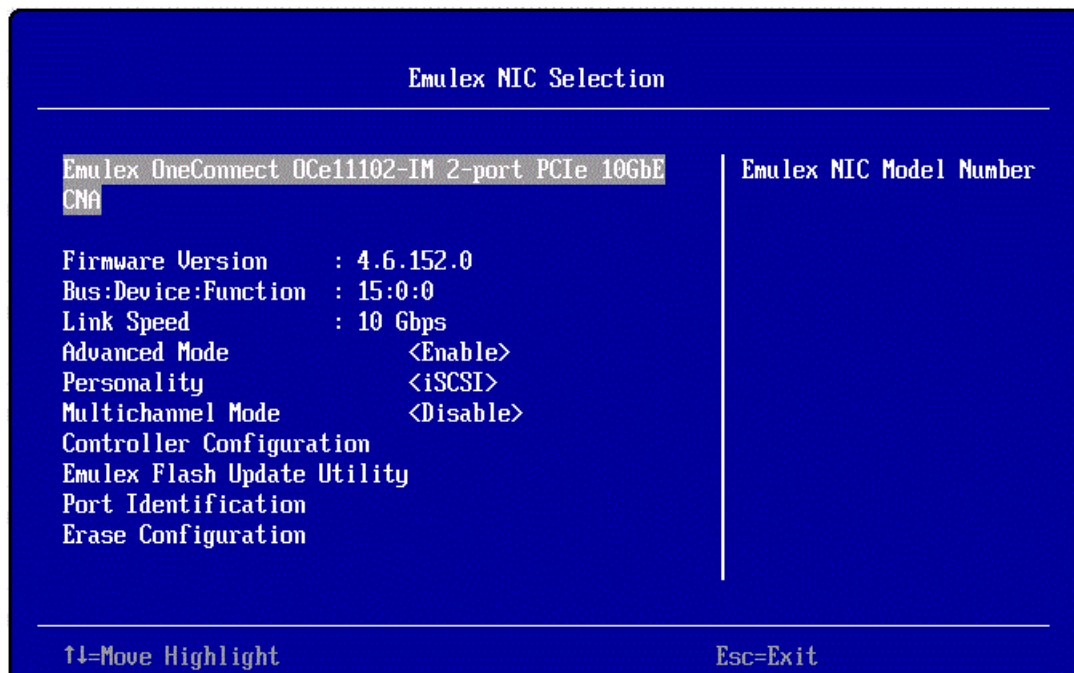

Figure 10-2 Emulex NIC Selection Screen
4. The Emulex NIC Selection screen (Figure 10-2) shows information for the selected adapter. Select **Emulex Flash Update Utility** and press <Enter>. The Emulex Flash
8. Reset the system. The latest version information for the adapter is displayed in the Emulex NIC Selection screen (Figure 10-2).